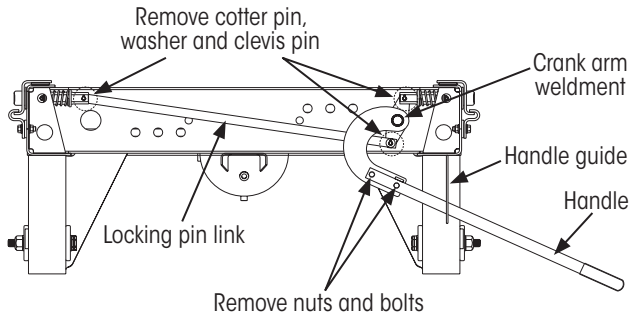

Figure 9: Removing existing pin release mechanism
Figure 9 shows a manual release mechanism. Procedures for removing other mechanical release mechanisms are similar.
1. **Remove** the two handle nuts and handle bolts from the handle assembly (Figure 9).
3. **Remove** the front locking pin link (Figure 9) by removing the cotter pin, washer and clevis pin from each end of the locking pin link.
4. **Unfasten** front crank arm weldment (Figure 9) by removing cotter pin, washer and clevis pin from locking pin.